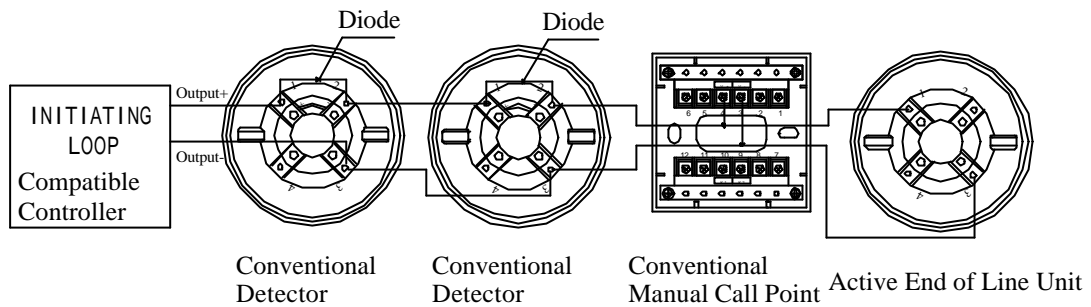

Fig. 6 System wiring
- a) The active end of line unit can be used as a detector base, that is, a conventional detector can be installed on it. System composition is shown in Fig. 6.